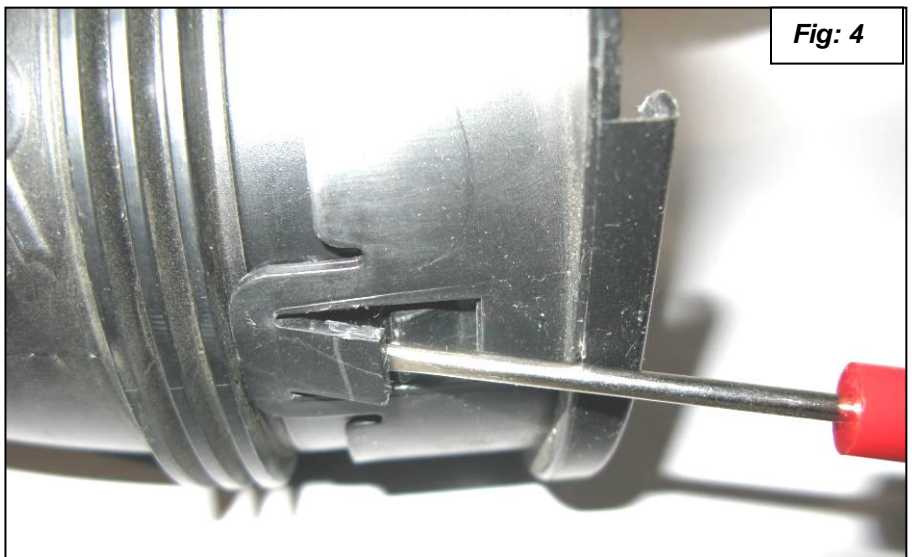

Fig: 4
8. Remove the air duct mounting flanges from the air ducts as shown by placing a small screw driver under each tab and sliding mount off of duct. See figures 4 and 5.